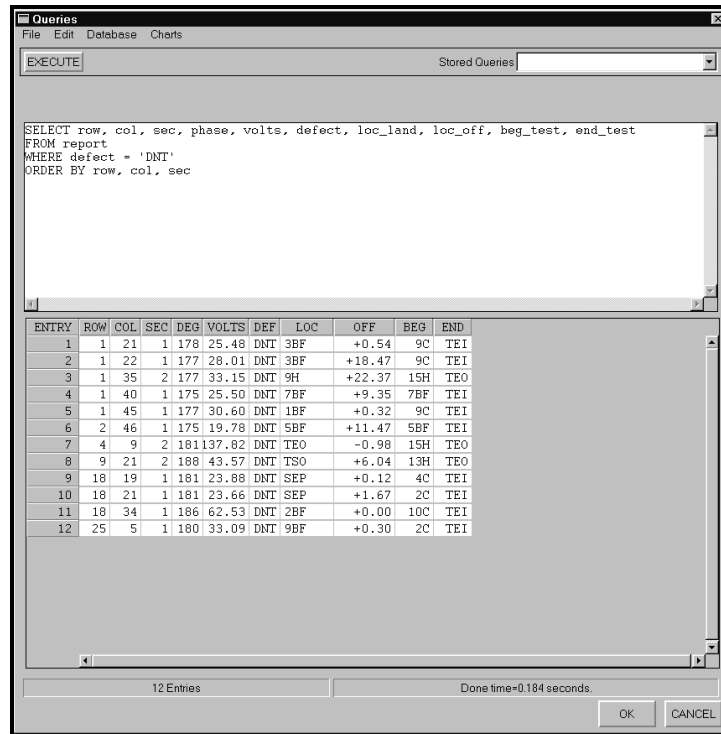

Figure 5-11. Query for Report
37. **Click** on the **EXECUTE** button. The same tubes should be listed but this time only the selected fields should be seen. See Figure 5-11. This is how the records will appear on a printed report.